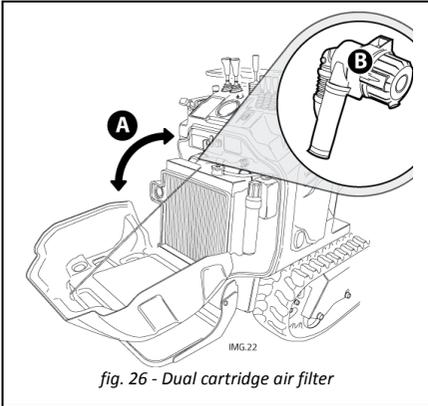

fig. 26 - Dual cartridge air filter
- Open the engine bonnet "A" (see fig. 26)
The correct level is obtained when the oil is at $\frac{3}{4}$ of the level meter, located on the left side of the dashboard near the air intake on the left (*see fig. 26*).